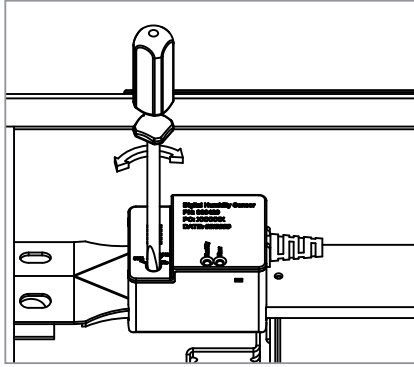

Fig. 2
- Set relative humidity based on desired performance. The lower the setting, the more sensitive the fan will be to changes in humidity levels as shown in Fig. 2.